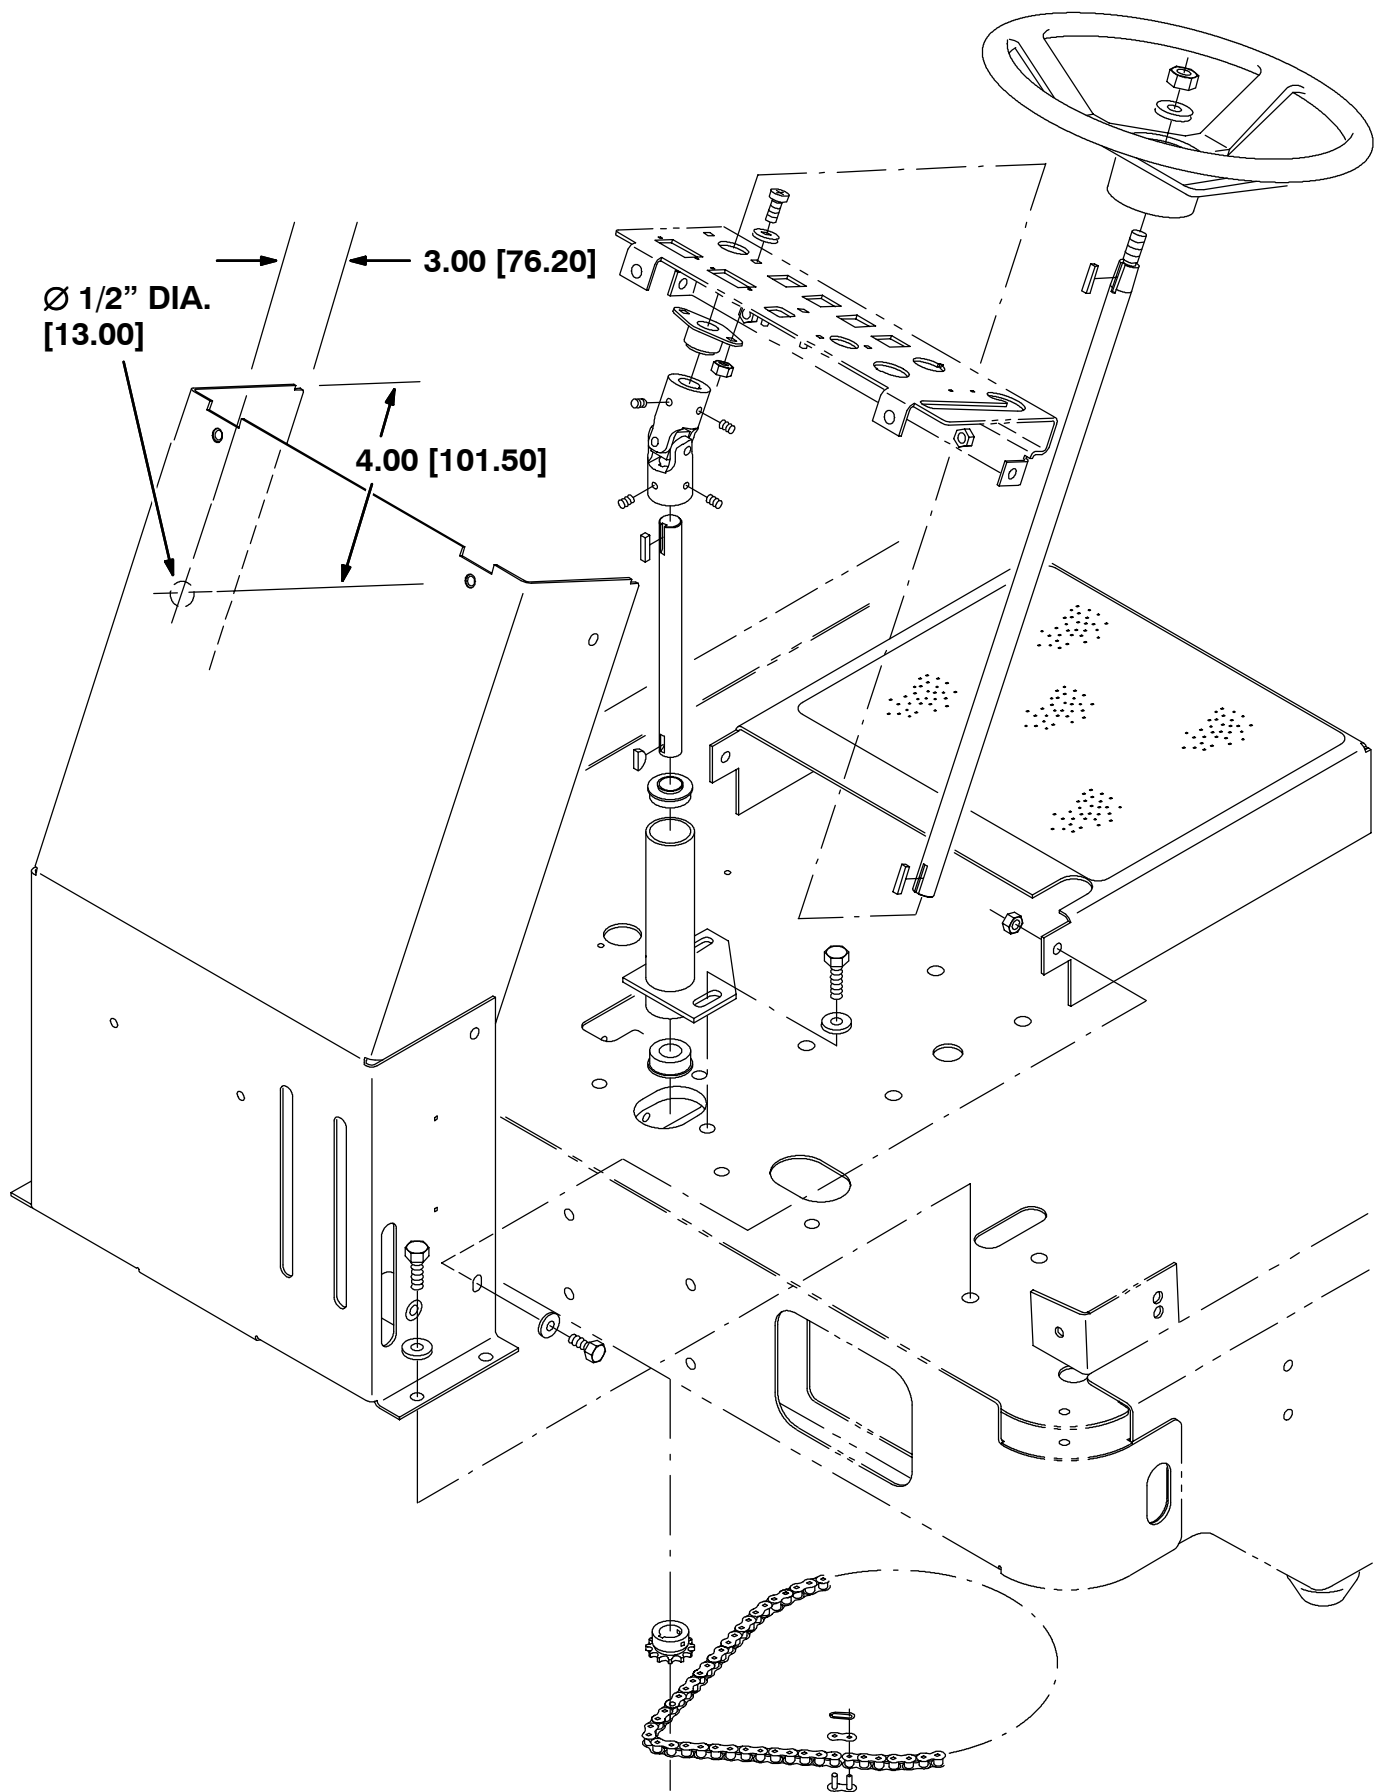

FIG. 3 - STEERING CHANNEL HOLE LOCATION
3. Using the hole location drawings in figures 3 and 4 for reference, mark and drill a 2 1/16" [13.00] hole in the right hand side of the steering channel. (Refer to FIG. 3 and 4)